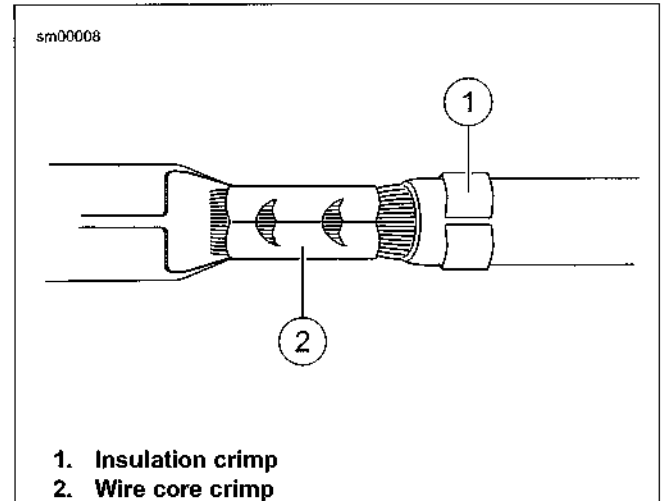

Figure A-62. Tyco 040 Multilock Unsealed Connector: Terminal Crimp
See Figure A-62. Inspect the wire core crimp (2) and insulation crimp (1). Distortion should be minimal.